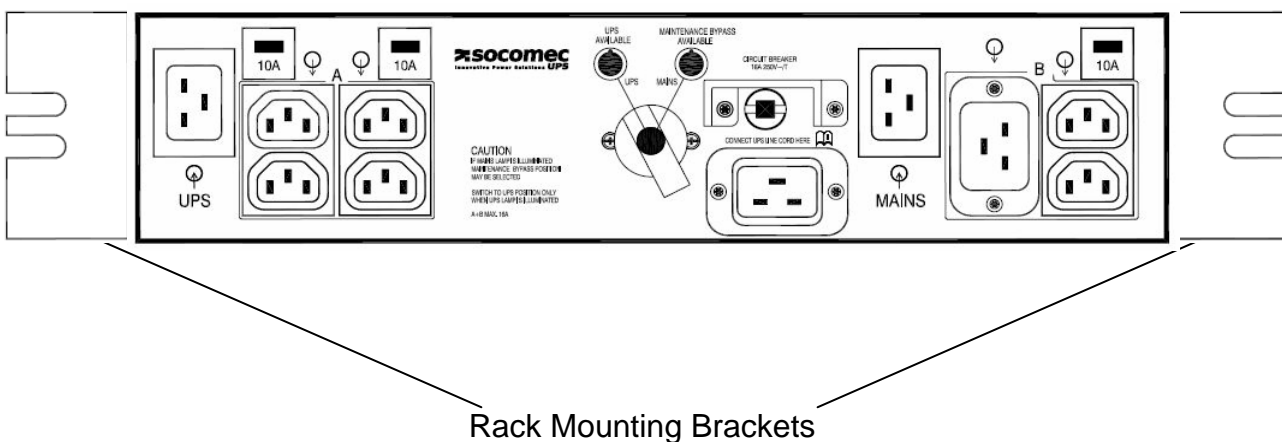

Figure 4
1. Rack mount installation of the PDU 16 is possible with the use of the rack mounting brackets (shipped with the PDU) See Figure 4.